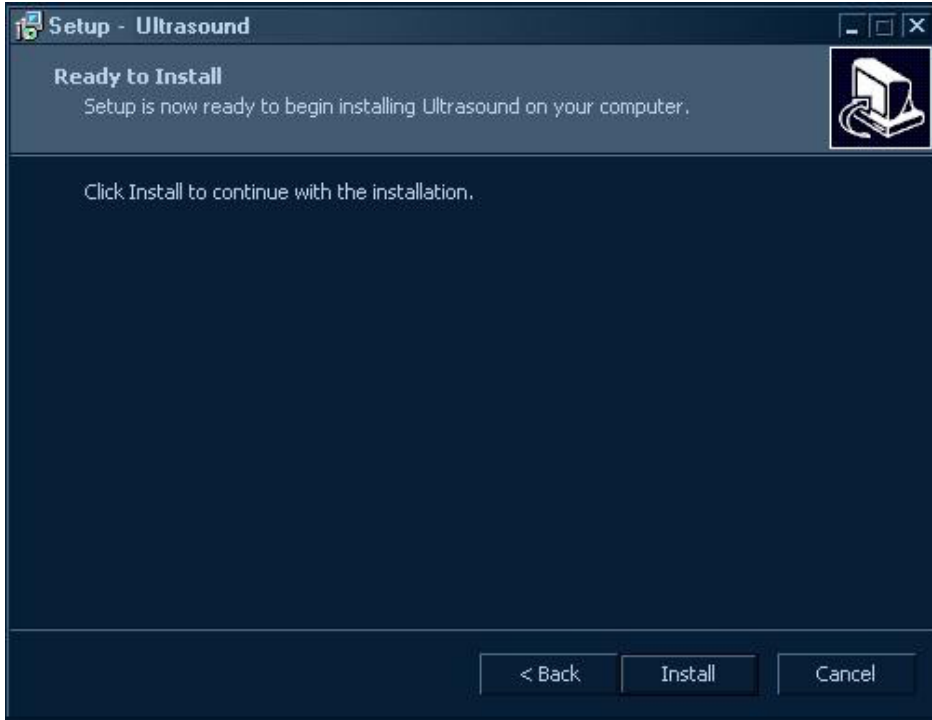

Figure 10-6 Update installation
- Scroll the trackball to “Install” and press “Set” key to continue as Figure 10-6.